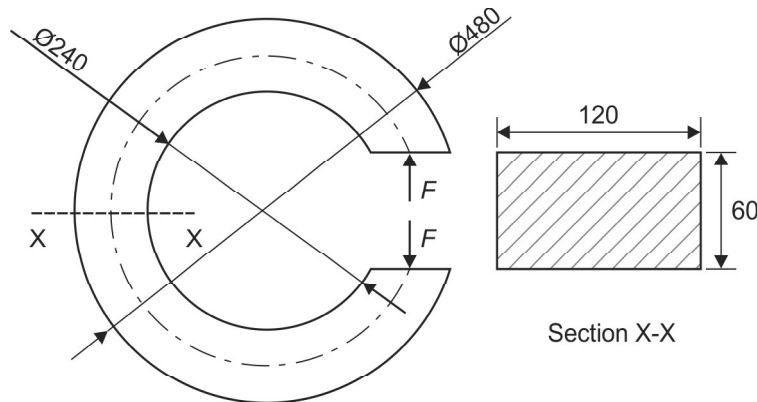

Fig. 1.30(a): Problem 25
- $M = (175)F$
25. Determine a safe value for load F for a machine element loaded as shown in Fig. 1.30(a), limiting the maximum normal stress induced on the cross-section X-X to 120 MPa.